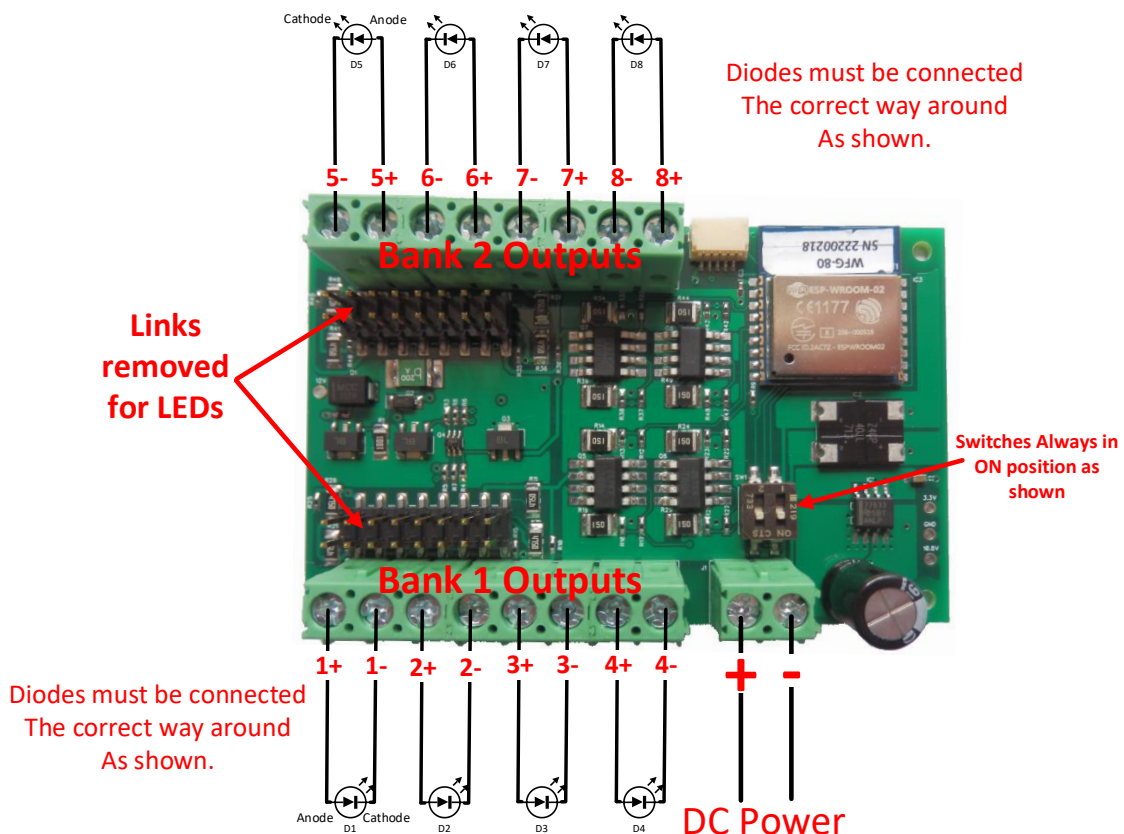
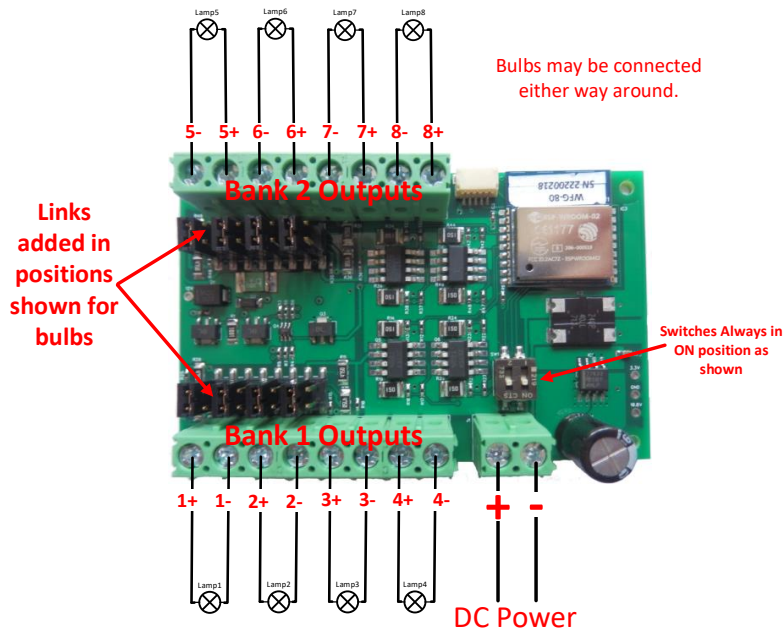
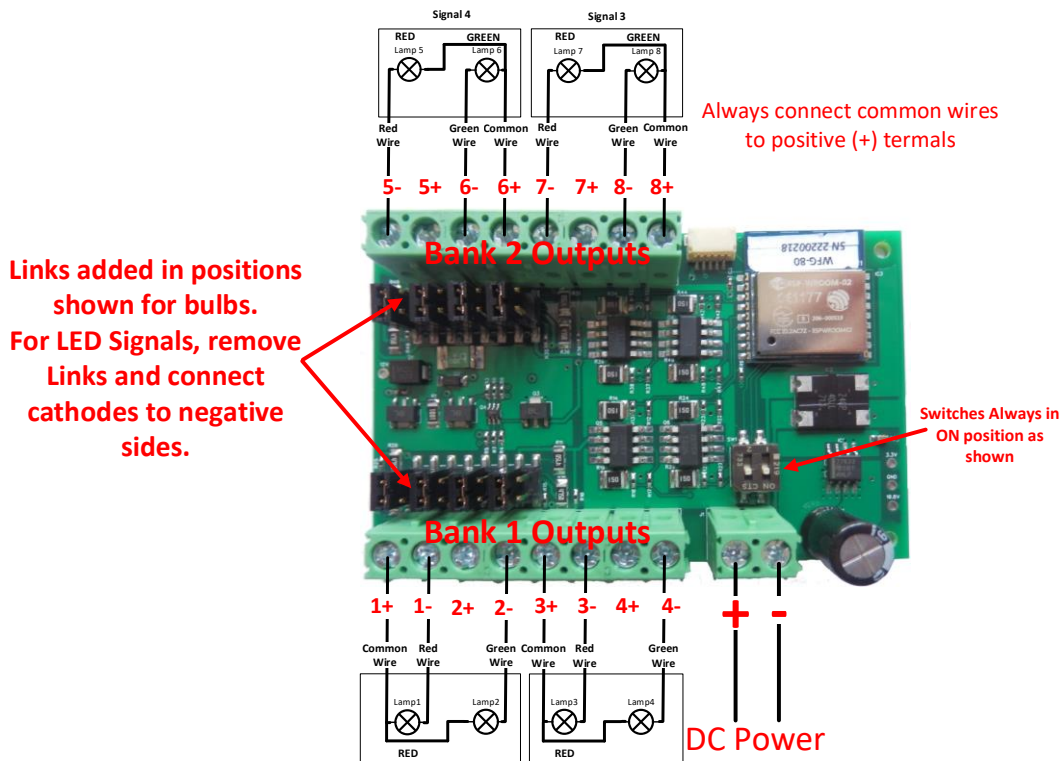
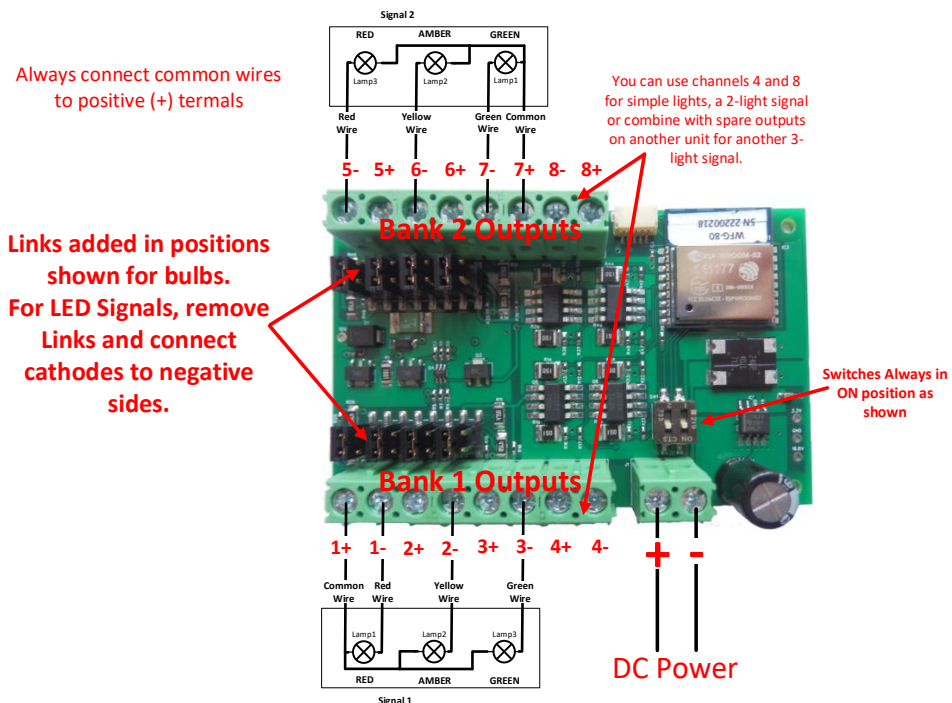

Figure 2 Connections for Light Emitting Diodes (LEDs)
Figure 3 Connection Diagram for Grain-of-Wheat Lamps
Figure 4 Connecting two-lamp signals with a common lead
Figure 5 Connecting three-lamp signals with a common lead
lamp or some other low current device. Each of these outputs are capable of driving about 70 mA simultaneously with the other channels. This is easily enough to drive light emitting diodes (LEDs) and will also drive small filament lamps. Each pair of outputs has a plus and minus label and when LEDs are connected, the anode of each LED must be connected to the plus terminal as shown in Figure 2.
Connect your LEDs or filament lamps as in Figure 2 or Figure 3. The only difference is that polarity must be observed with LEDs. If you connect an LED around the wrong way, it will not be damaged but will not light. Filament lamps may be connected either way. Take care to remove all links if you are using LEDs. This is because a series resistor of around 1000 ohm (1K Ω) must be included to limit the LED current. Failure to provide this series resistance will destroy the LED. If you want the LED really bright, you can use a link to set the resistance to 475 ohms, but this will likely shorten the life of the LED. For filament lamps such as “Grain of Wheat” (GOW) lamps, no series resistance is needed. The WFG-80 will not drive lamps requiring more than around 90mA, so only GOW lamps are supported and these should preferably be 9V lamps or less to get good brightness.
connected together and is a common lead. In this case refer to Figure 4 and Figure 5. Here the positive side is common and only one positive connection is required for each group of lamps.
- (2) Wire the WFG-80 to your lights or signals according to Figure 2, Figure 3, Figure 4 or Figure 5. Be sure to connect any common wires to the positive side of each of the eight channels.
- (3) Note that each of the two banks can be dimmed independently through software using the WFG-80 Web Pages or the Tower Operator app.
- (4) Note that the two DIP switches must be always in the on position. These are only changed to off for firmware update.
- (5) Connect power to your unit at TRKA and TRKB as shown in Figure 2 through Figure 5. It does not matter which way round you connect the power. You can also use DCC track power but NOT AC. The power should be between 12 and 18 volts.